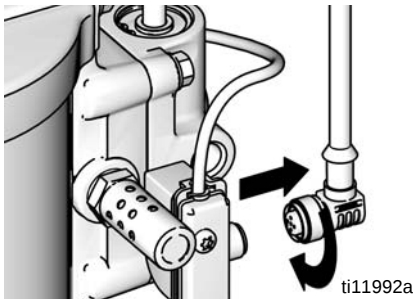

FIG. 9. Disconnect DataTrak
- 1. Unscrew cable from the back of the reed switch assembly. See FIG. 9.